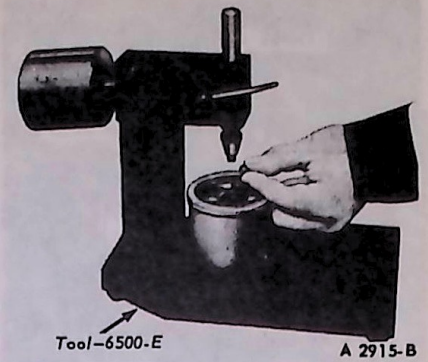

FIG. 6 Placing Steel Ball in Valve Lifter Plunger
3. Place a 5/16-inch steel ball in the plunger cup (Fig. 6).